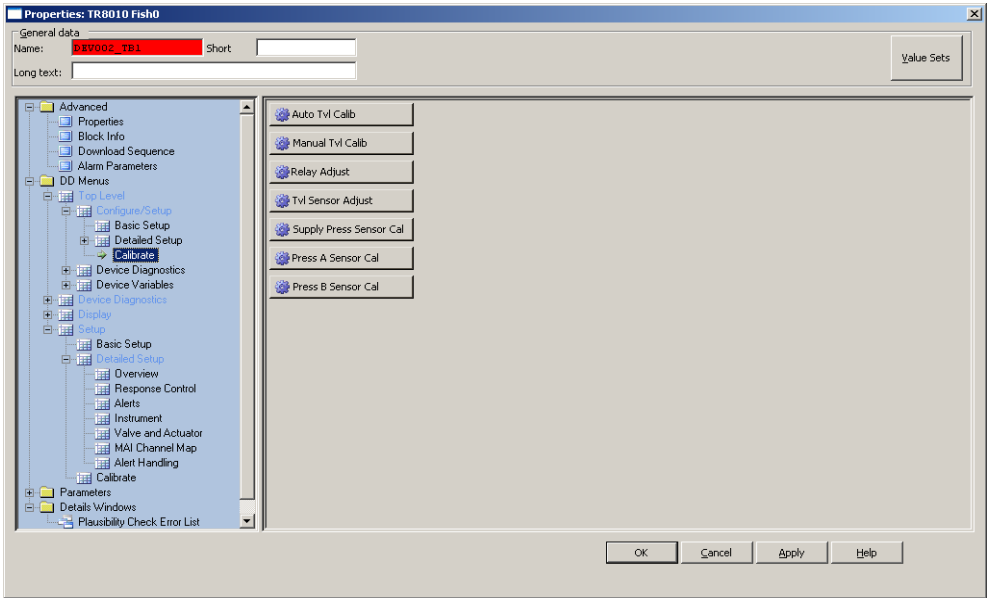

Figure 171. Block Properties Dialog
- a. Open the Properties dialog of the function block by double clicking the block in the FF Application object or in the H1 device object (refer to Figure 171).